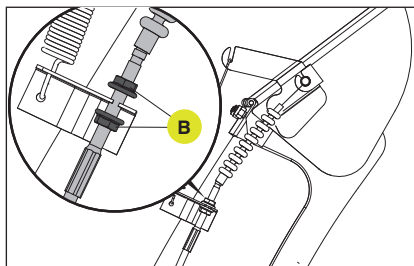

Figure 46
3. On the chute deflector control cable, slide back the rubber boot and loosen the two nuts (B), one each side of the bracket as shown. (Fig. 46)